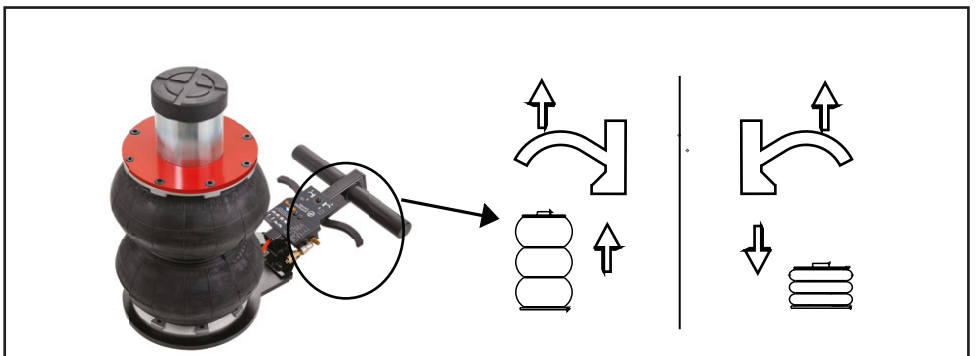

Fig. 03
- Pull the right trigger, "Up" position, the load is lifted to the desired level. Secure with support stand. (Fig.03)
- To lower the load, Pull the left trigger, "Down" position. (Fig.03)